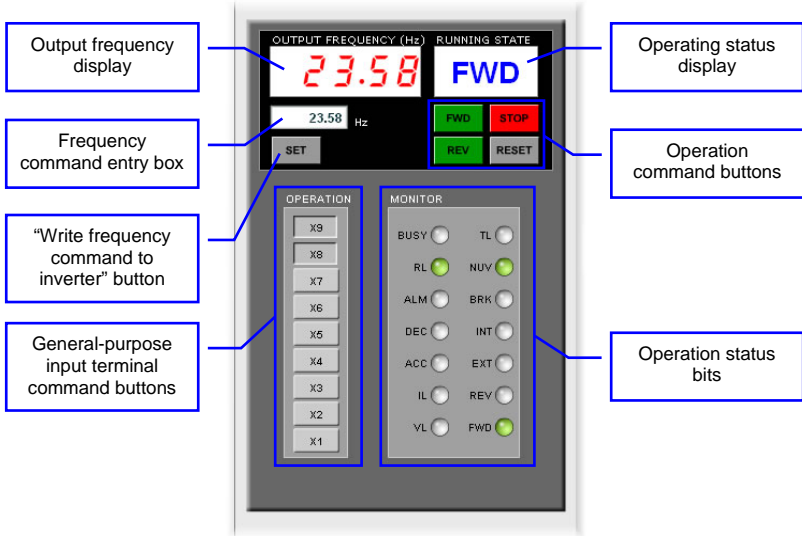

Figure 54: Virtual Keypad Overview
A “virtual keypad” is displayed on the left-hand side of the dashboard tab, and acts as an interface for several useful pieces of control and monitor information. For an overview of the virtual keypad interface, refer to Figure 54. Note that it is recommended to suspend all external protocol-based communications with PLC’s, etc. when using the virtual keypad, as other protocols may simultaneously be writing to the inverter’s frequency command and operation command word, resulting in seemingly unpredictable behavior.
**Output frequency display:** Indicates the current output frequency of the inverter in large red numbers, as reported by inverter register 2058. The image in Figure 54 indicates that the associated inverter is currently running at 23.58Hz.
**General-purpose input terminal command buttons:** These buttons (labeled “X1” through “X9”) map to the corresponding bits in the inverter’s operation command word (register 1799, bit #2 .. bit #10). The usage of these bits varies depending on the configuration of inverter function codes E01 to E09. When a given button is clicked and shown in its depressed state, the corresponding bit is set to a “1”. When clicked again (and therefore shown in its non-depressed state), the corresponding bit is set to a “0”. As an example, the image in Figure 54 shows X1..X7 as OFF (“0”), and X8 and X9 as ON (“1”). Note that controlling these operation command word bits will only affect the inverter when it is configured accordingly (refer to section 3.2).
**Operation status bits:** These “virtual LEDs” map to the corresponding bits of the same name in the inverter’s operation status word (register 2063). When a given bit in the status word is “1”, then its corresponding indicator will be lit. The indicator will not be lit if its status word bit is “0”. As an example, the image in Figure 54 shows FWD (bit #0), NUV (bit #5) and RL (bit #12) ON, and all other bits OFF.